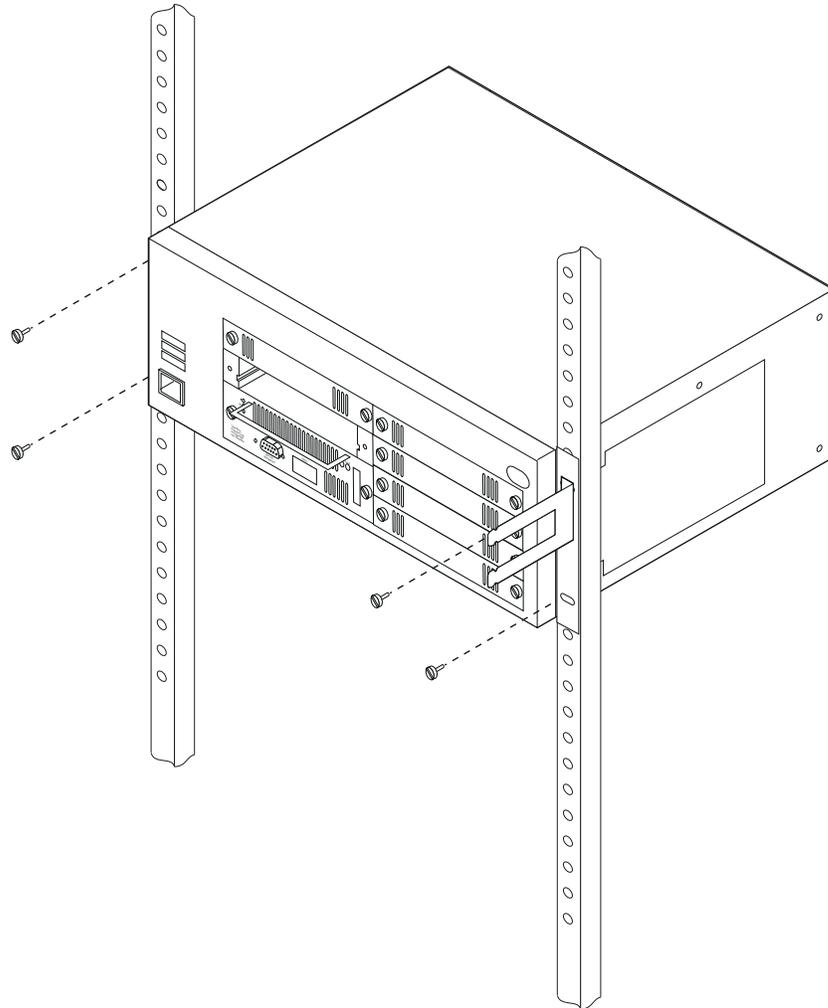

Figure 2-4. Installing the 8270-600 in the Rack
**Step 1.** Using four rack-mount screws, mount the 8270-600 as shown in Figure 2-4 on page 2-7.